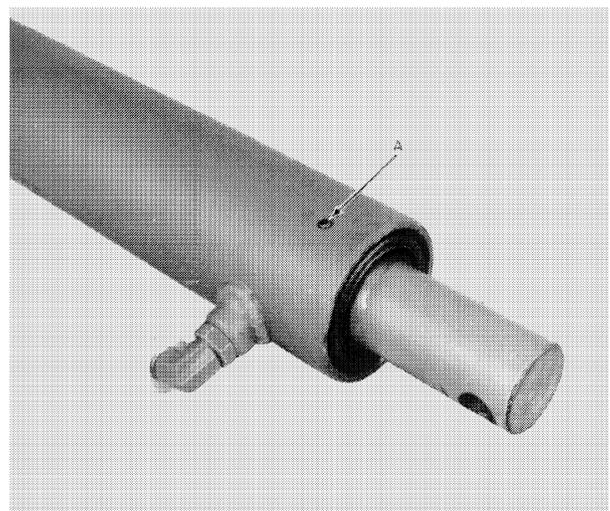
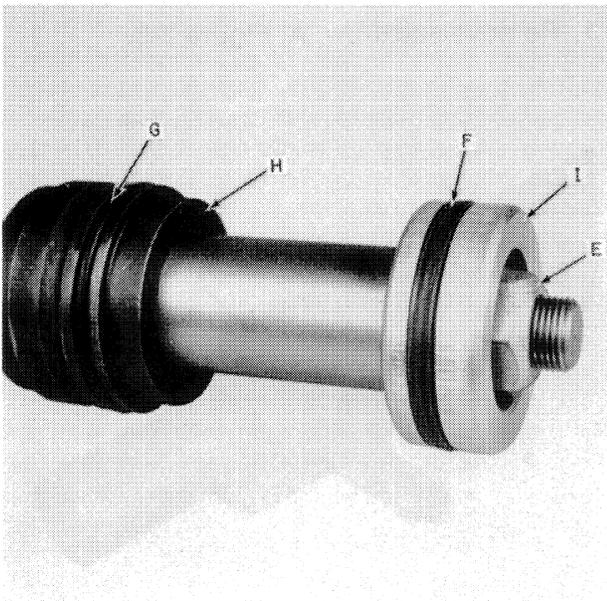

FIGURE 2-3
FIGURE 2-5
1. Remove setscrew, A, Figure 2-3.
4. Remove rod nut, E, Figure 2-5, and remove piston, I, and cylinder head, H.
3. Install piston, I, Figure 2-5, and locknut, E. Tighten the locknut to 155 ft. lbs. (210 N·m) torque.
4. Install O ring, G, and seal, F, Figure 2-5.
6. Install setscrew, A, Figure 2-3, aligning it with the groove in cylinder head, H, Figure 2-5.